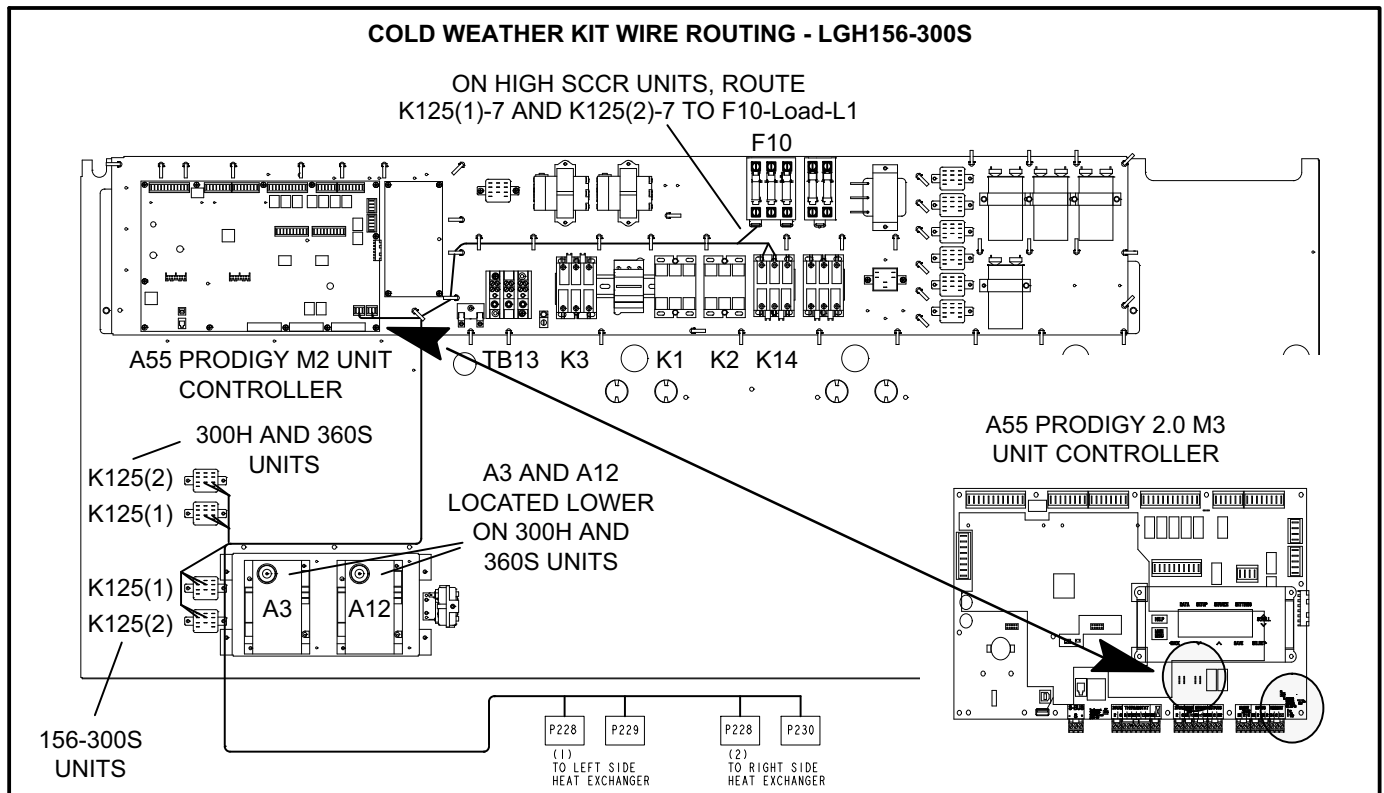

FIGURE 9
- 3- Install both K125 relays in control area above compressors. Secure with #8 screws. See figure 9.
- 4- Locate harness labeled 106051-01 for standard SCCR units or 105722-01 for high SCCR units. Route as shown in figure 9. Secure with wire ties. Discard unused harnesses.
- 4- Locate harness labeled 604785-01 and route as shown in figure 9. Secure with wire ties. Discard unused harnesses.